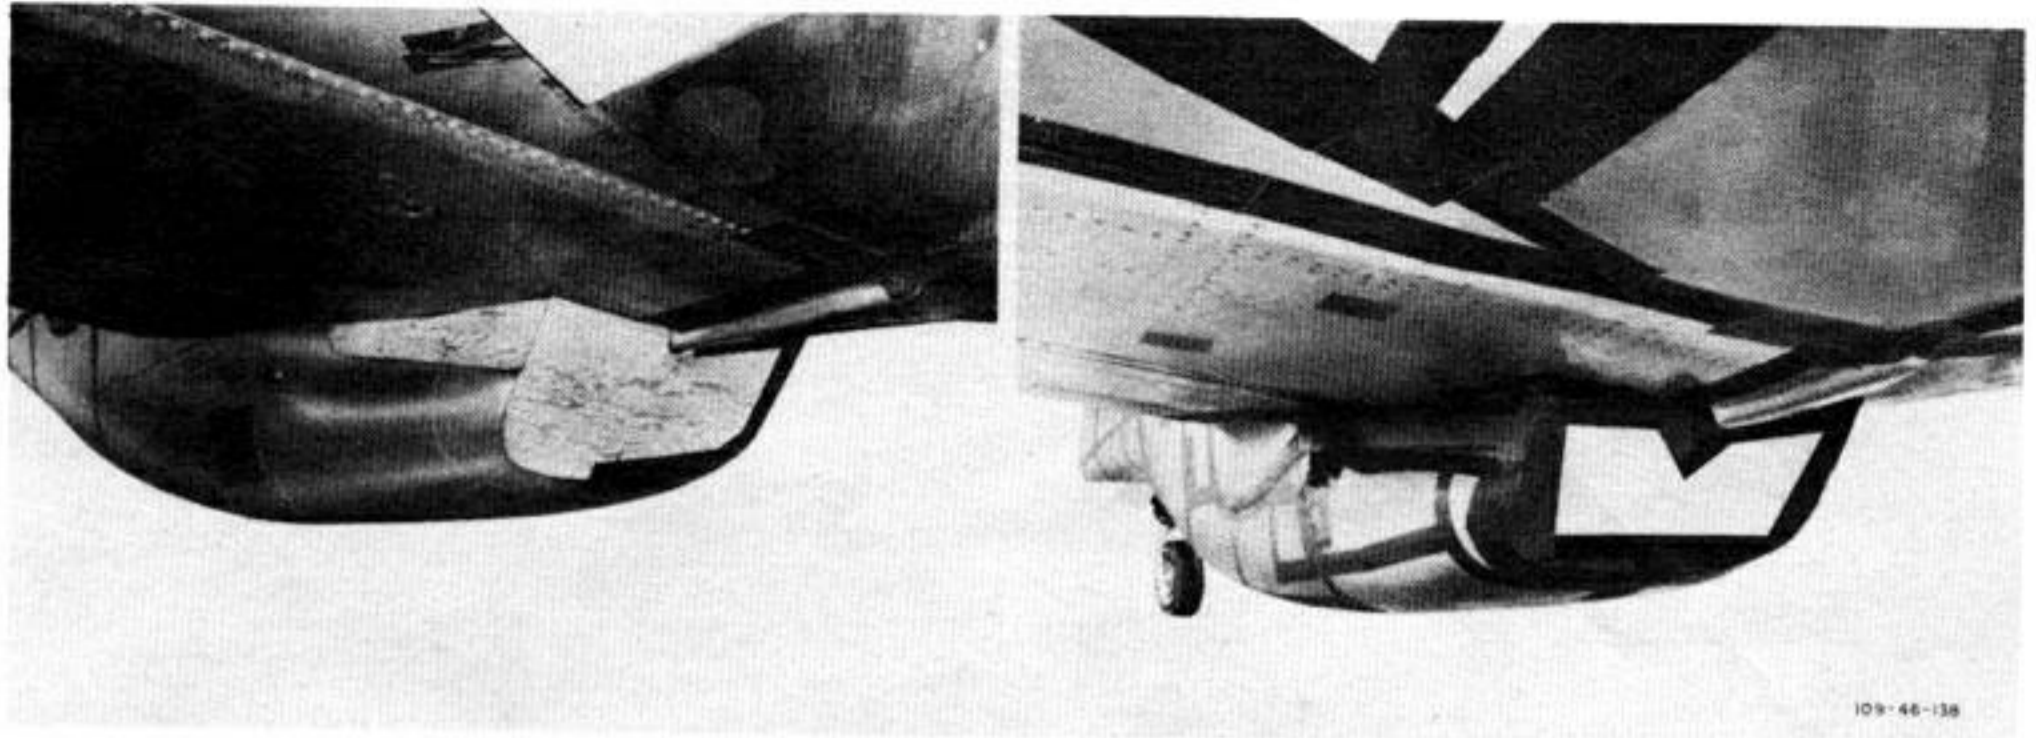

Figure 21—Radiator Air Scoop Forward Shield
e. Pass a length of wire around center brace of scoop, place shield assembly in position, and pass wire through two holes in scoop shield. (See figure 21.) Twist